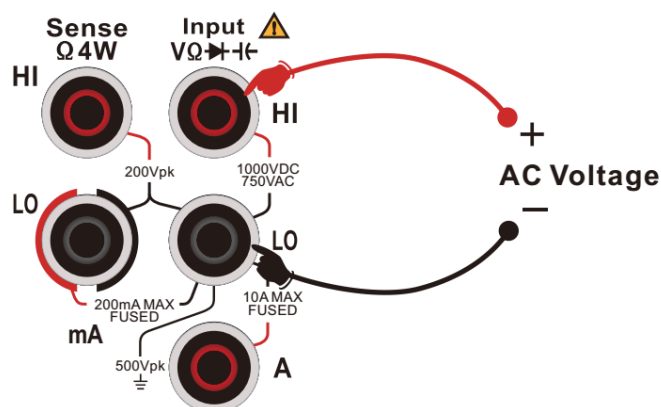

Figure 0-33 Measuring Connection of Signal Period
2. As shown in Figure 0-33, connect the test leads and the circuit under test, the red test